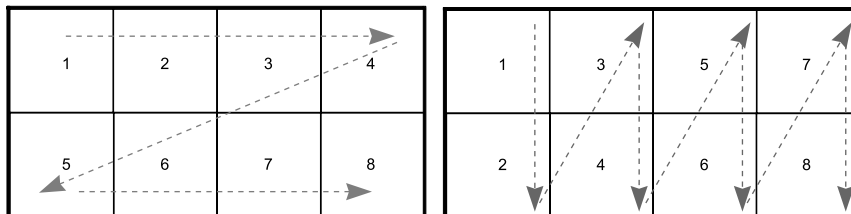

Figure 3-7 Standard (left) and Alternate (right) Display Numbering
2. Connect the other two ends of each cable to your display devices. The way you connect these should reflect how you want to number your display devices. By software default, numbering begins from the top left of your display wall and continues across each row and down. See Figure 3-7.
The controller comes standard with one *D4* module and two dual VGA cables. In this configuration, the controller can be connected to up to four display devices. The controller can be customized to include up to 10 *D4* modules (using a single expansion chassis), enabling you to choose from a variety of configurations. See Figure 3-7 Standard (left) and Alternate (right) Display Numbering.